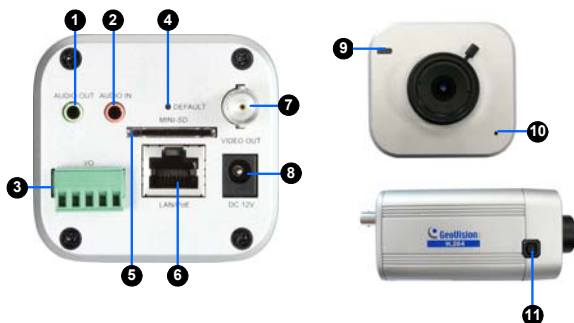
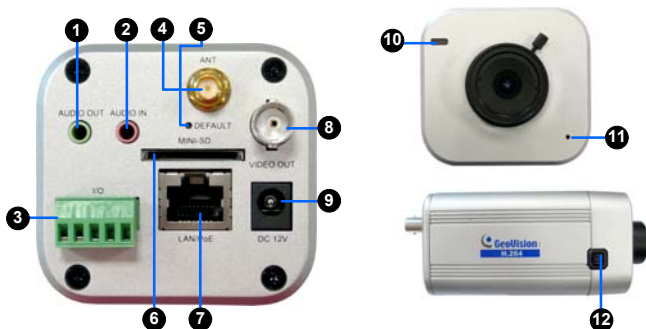

Figure 1-1
Figure 1-2
1. Plug the iris control cable to the Auto Iris Connector on the camera (No. 11, Figure 1-1 or No. 12, Figure 1-2).